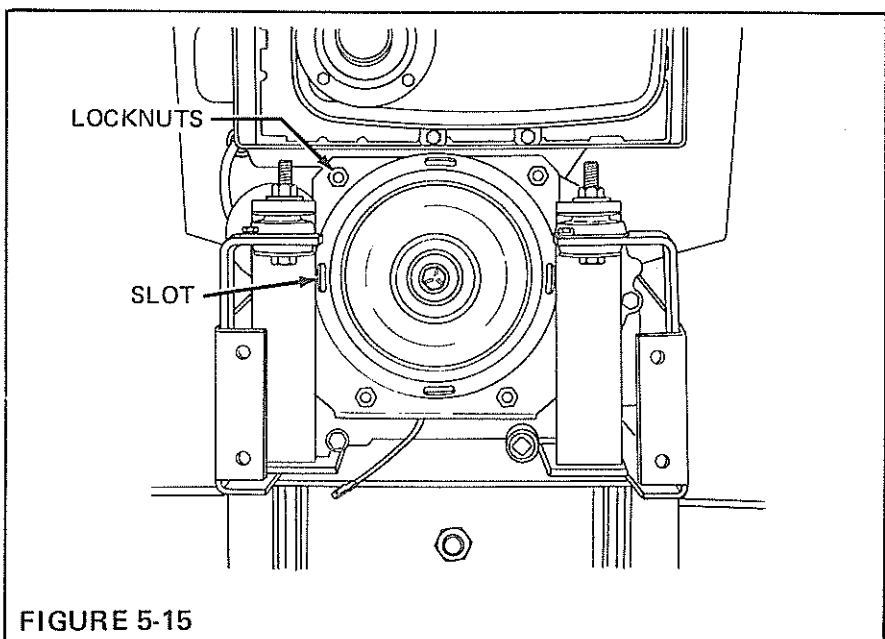

FIGURE 5-15
Position a .015" (0.38mm) thick shim in each of the four slots, Figure 5-15, in brake flange and turn on clutch/brake. Tighten the (4) locknuts until they just contact brake flange. (CAUTION: DO NOT over torque locknuts as damage to brake flange may result).